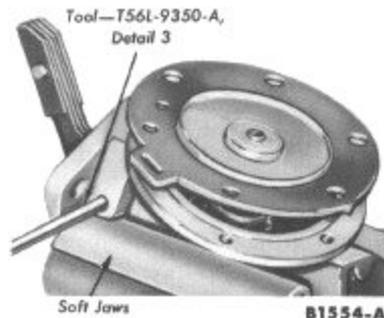

FIG. 31—Rocker Arm Pin Removal
4. Scrape away the staking marks at the rocker arm plugs and remove one plug. Drive out the other plug and pin with tool T56L-9350-A, Detail 3 (Fig. 31). Remove the rocker arm and spring.